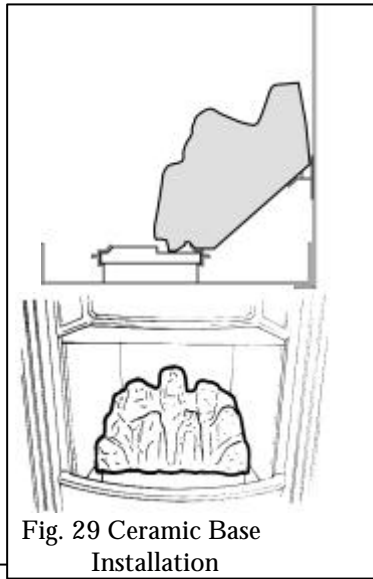

Fig. 29 Ceramic Base Installation
11.1 Place the ceramic base coal in the burner compartment. The bottom rear face of the coal should rest on the angled ledge at the back of the burner compartment. The bottom front recessed edge of the coal base should locate against the step in the burner plaques (See figure 29).